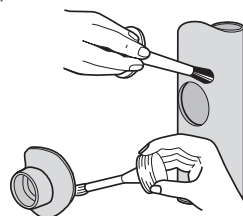

Fig.26e Applying cement
**Step 5** – Apply 9100 Liquid Weld (solvent cement) to all mating surfaces using a clean brush (Fig.26e)